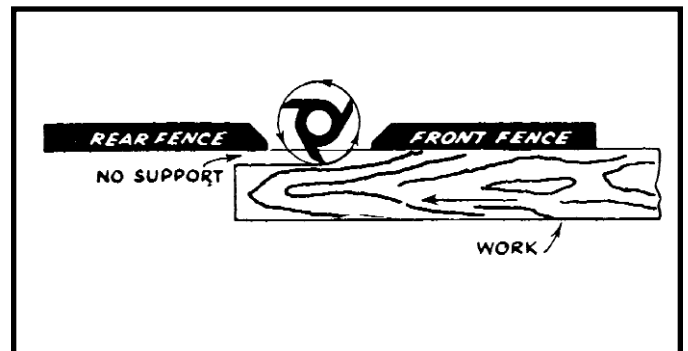

Fig. 61
2. When the shaping operation removes the entire edge of the work, e.g., in jointing or making a full bead, the shaped edge will not be supported by the rear fence when both fences are in line, as shown in Fig. 61. In this case, the work should be advanced to the position shown in Fig. 61 and stopped.